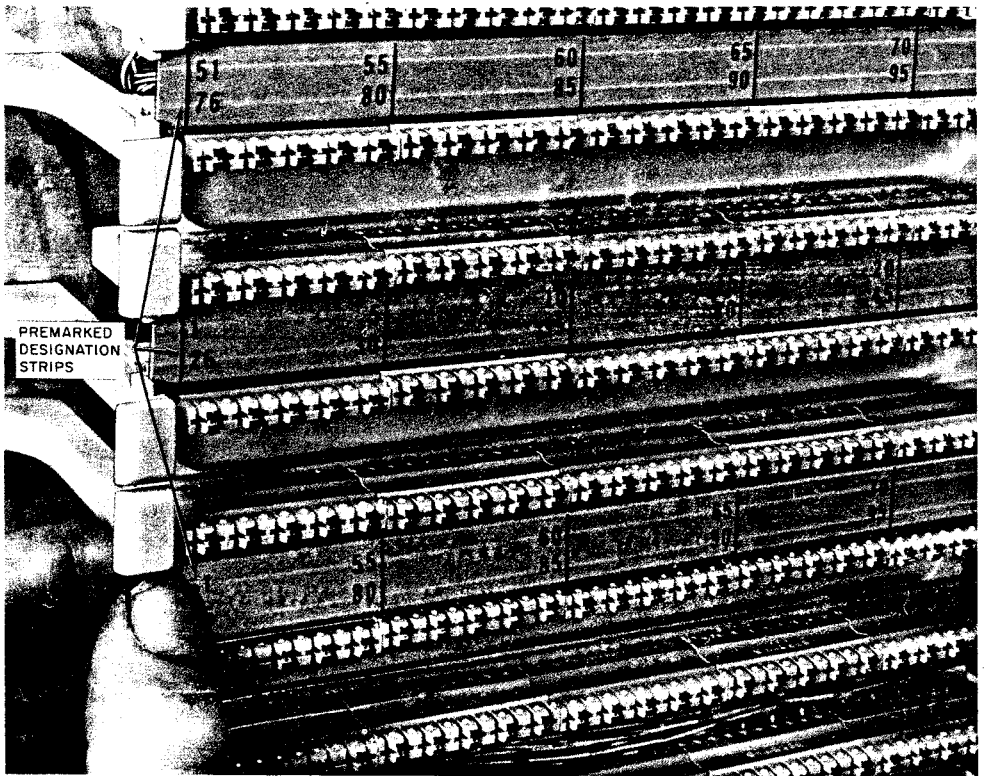

Fig. 17—Designation Strip Placed on Wiring Block
5.04 After all connecting blocks have been seated, install the appropriately marked designation strips on the wiring block (Fig. 17).